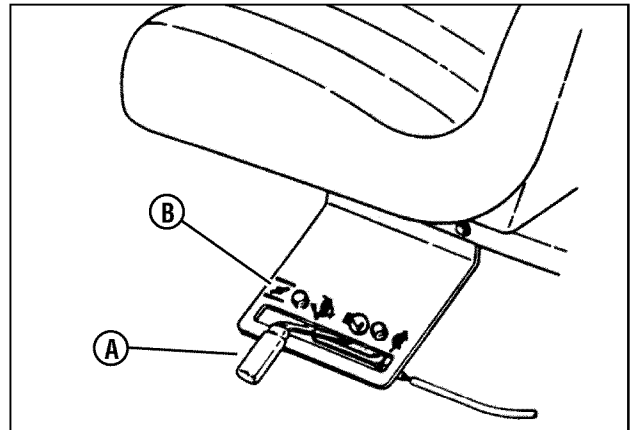

Figure 6: Engine speed control
5. Move the engine speed control (A, Figure 6) to the choke position (B) to start a cold engine.
- Move the engine speed control (A, Figure 6) to the choke position (B) to start a cold engine.